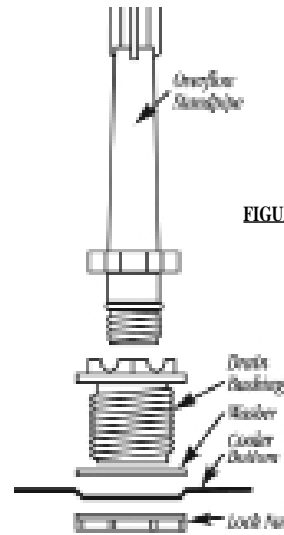

FIGURE 7
4. Connect (copper/pvc/garden hose) to drain bushing and drain in accordance to local codes (see Figure 7).